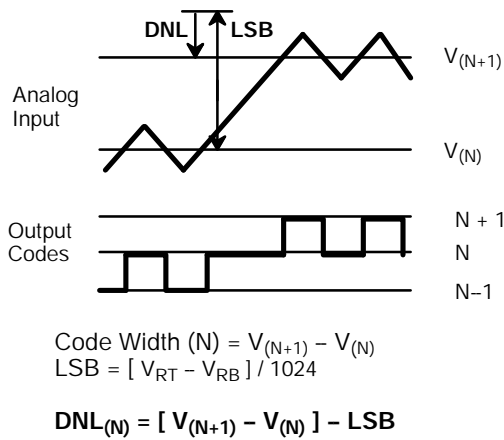
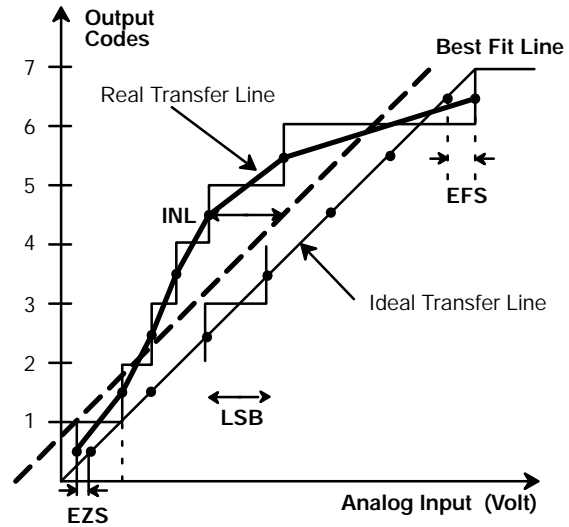

Figure 3. DNL Measurement
Figure 4. INL Error Calculation
- ¹ Tester measures code transitions by dithering the voltage of the analog input (V_{IN}). The difference between the measured and the ideal code width ($V_{REF}/1024$) is the DNL error (Figure 3.). The INL error is the maximum distance (in LSBs) from the best fit line to any transition voltage (Figure 4.). Accuracy is a function of the sampling rate (FS).